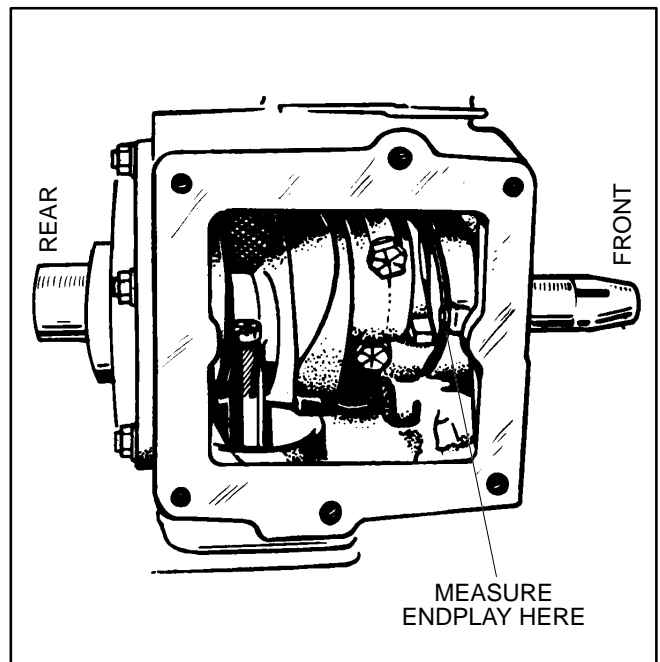

FIGURE 7-30. CRANKSHAFT ENDPLAY
9. Lightly tap the front of the crankshaft with a plastic-faced hammer to take up the crankshaft endplay. Check end play with a feeler gauge at the location shown (Figure 7-30). The endplay should be 0.006-0.012 inch (0.15-0.30 mm). Add or remove shims as necessary.